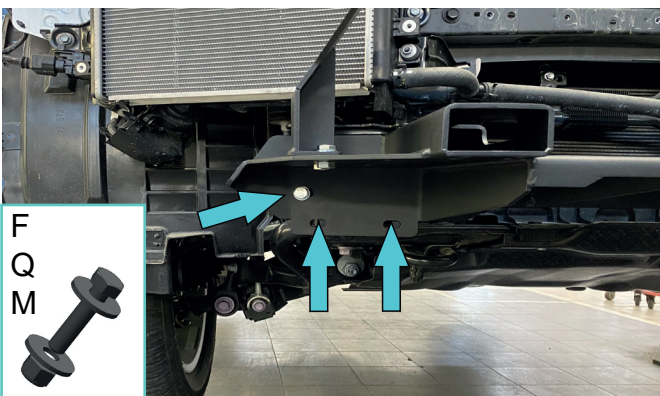

Fig.23
23. Fix winch bracket (item 9) on both sides of the vehicle using bolts M10x30 (item F), washers penny 10 (item Q), nuts M10 (item M) and OE bolts as shown in fig.23.